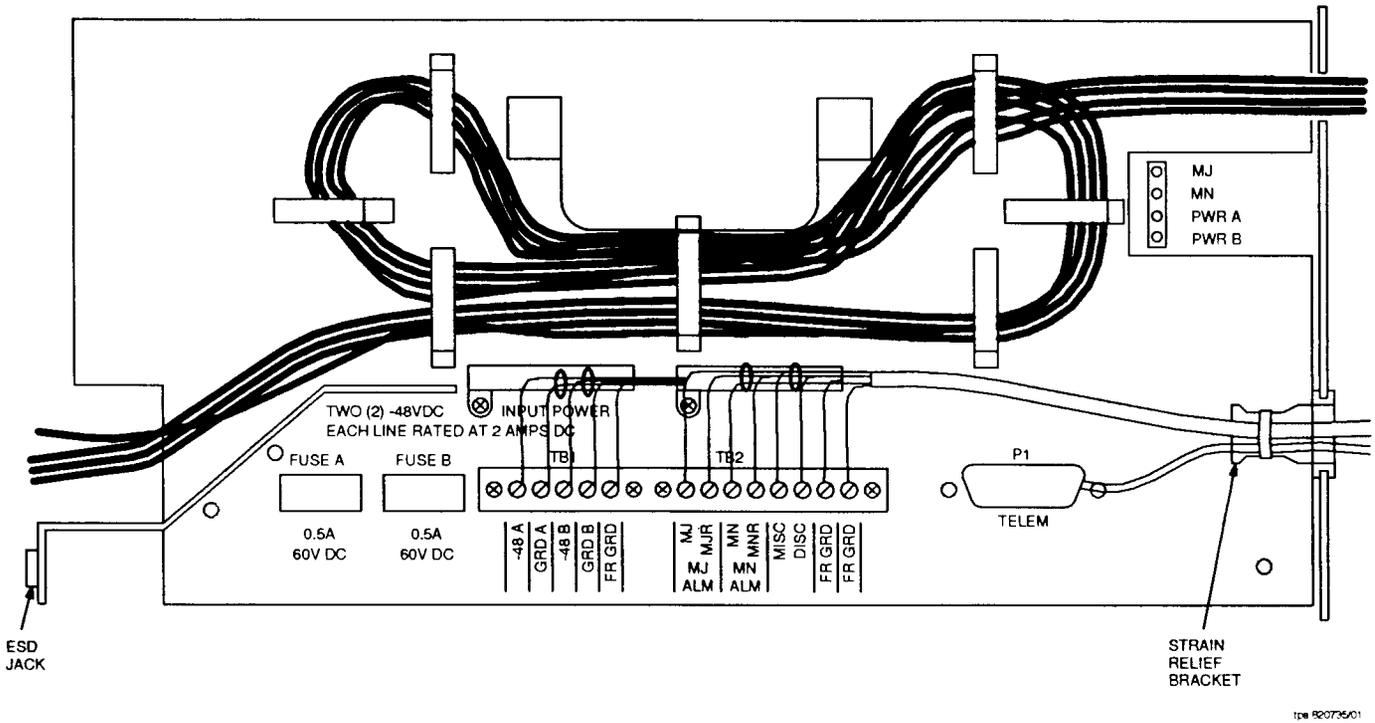

Figure 2-2. Wall Cable Connections (Side View)
1. Dress all cables (ground, power, alarm, miscellaneous discrete and parallel telemetry) to the strain relief bracket (Figure 2-2) as they leave the Wall DT housing, using the wire tie provided.